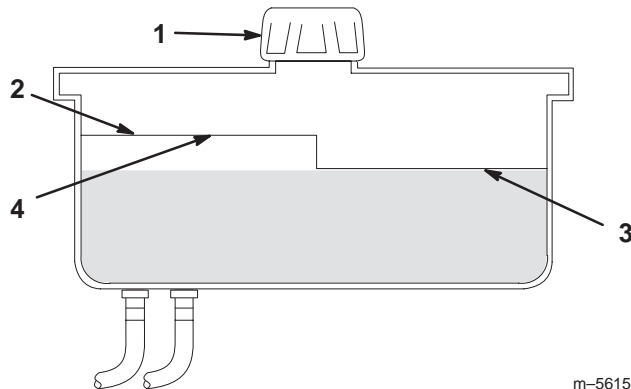

Figure 46
2. Clean area around filler neck of hydraulic tank (Fig. 46).
3. Remove the cap from the filler neck. Look inside to check if there is fluid in the reservoir (Fig. 46).
Note: The fluid level should be to the top of the **hot** level of the baffle, when the fluid is hot (Fig. 46).